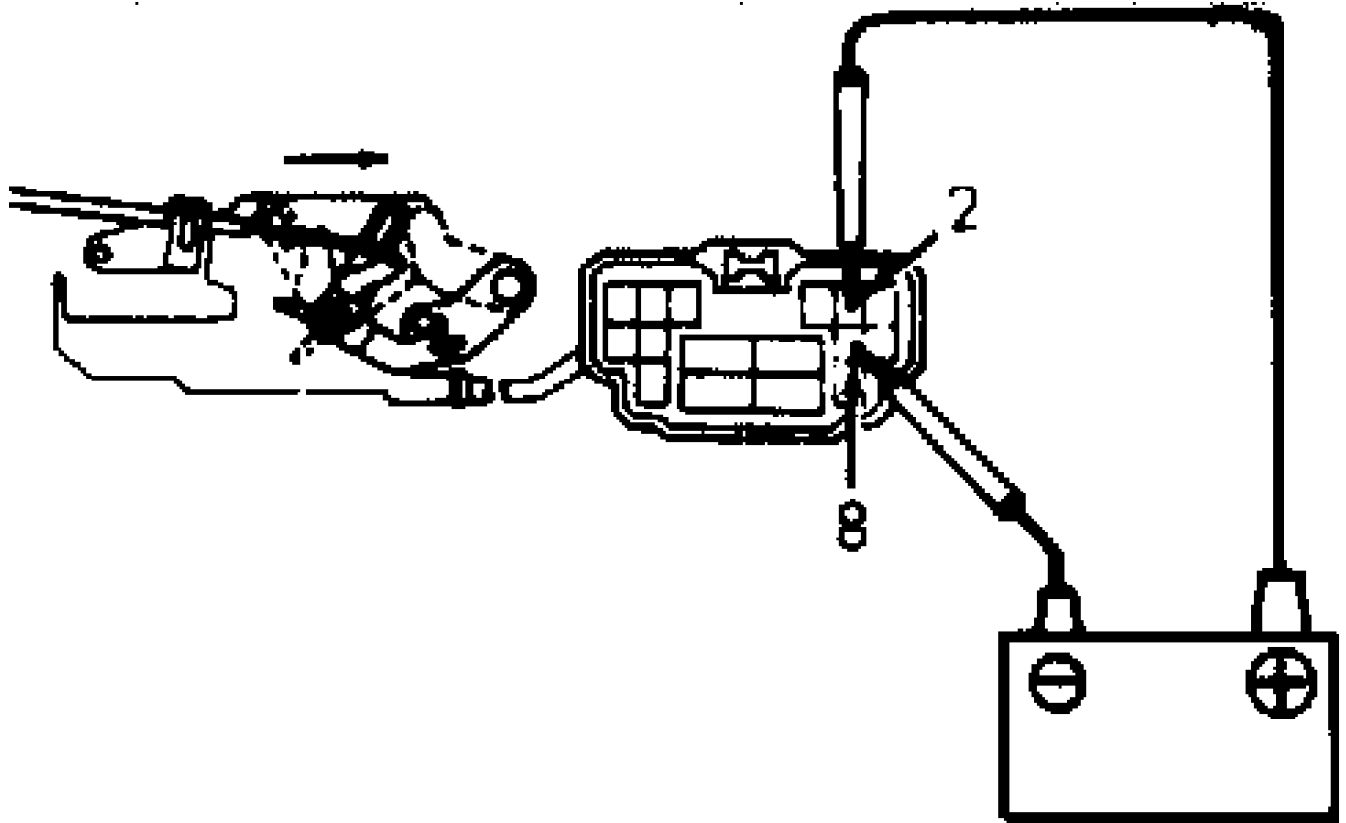

Fig. 8: Air-Mix Servo Motor Connector
1) Disconnect air-mix servo motor connector. Connect a battery positive jumper lead to terminal No. 2. Connect battery negative jumper lead to terminal No. 8. Check that servo motor lever moves smoothly from warm to cool. Reverse battery jumper leads. Servo motor lever should move smoothly to warm position. See Fig. 8.